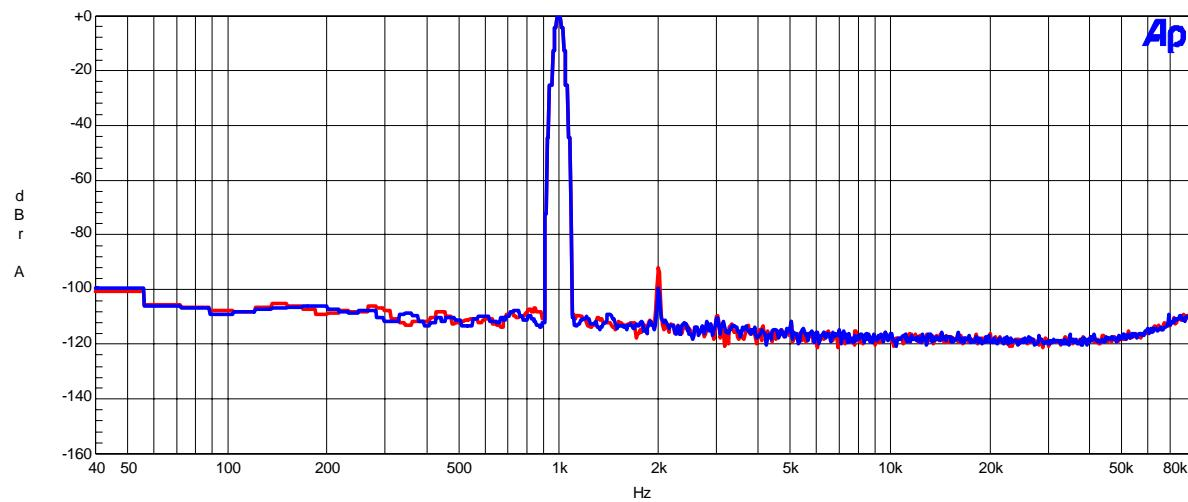

Figure 41 FFT (1kHz, 0dBFS input)
- Figure 41 FFT (1kHz, 0dBFS input)